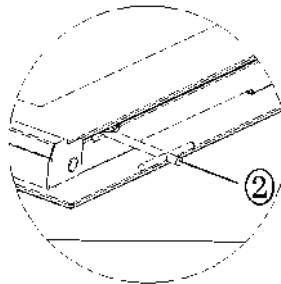

Figure 2
- ①: Inside glass
②: Pointed tool (To insert into disassembly groove)
③: Disassembly groove
1. To insert ② pointed tool into the disassembly groove, as shown in figure 2.